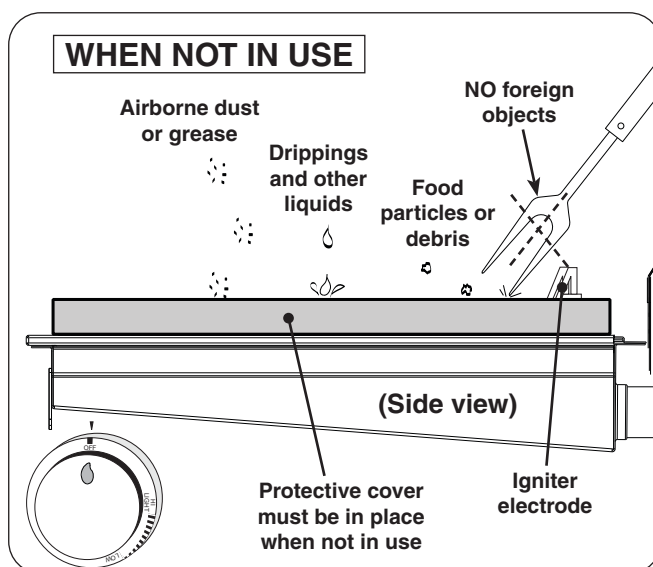

Fig. 30-2 Infrared burner - WHEN NOT IN USE
- When not in use, **always** cover the infrared burner with the stainless-steel cover. This protects the burner from drippings (from other cooking), water, airborne particles, and foreign objects (Fig. 30-2).
- Do not strike or scrape the ceramic portion of the burner as it may chip, crack, or break (Fig. 30-2).